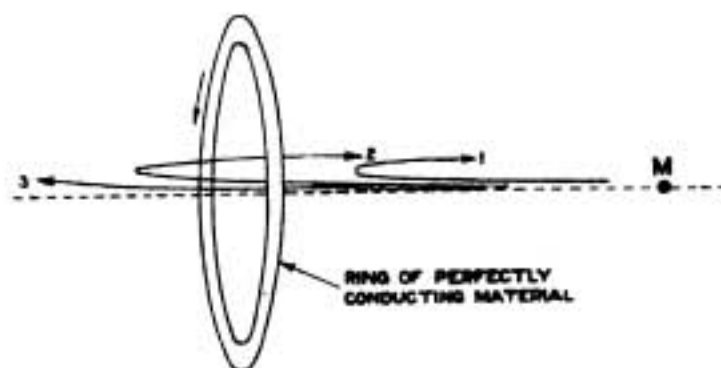

Fig. 6. Diagram illustrative of energy quantum being given to perfectly conducting ring by a moving magnetic pole.
it is. I was going to trouble you with the equation, but I won't do that, I will just illustrate how an electron striking an atom might refrain from giving it any energy at all unless it gave it a whole quantum and that it will not give it more than a quantum, but will retain the rest. I am going to take a ring of perfectly conducting material, (Fig. 6). The little difficulty—if it can be called a difficulty—of following this experiment is because we are not accustomed to dealing with perfectly conducting materials, but some of you may know that Kammerlingh Onnes in Leyden cooled a lead ring down to nearly absolute zero by means of liquid helium—he cooled it down to within two or three degrees of zero—and the lead became perfectly conducting, so that if you excited a current in that ring, such as you might do by snatching a magnet out of it, that current would continue ordinarily for a fraction
be down. We are all doing the proper things on our own—a planet need not be a big thing—and so these electrons are just carrying on and in those experiments they were travelling round and round the ring. Now if you take a magnetic pole (the difficulty of this experiment is that you cannot get one magnetic pole without the other, that is a weak point, but you can imagine a magnetic pole) there is the ring with no current in it, and take the magnetic pole from any distance and bring it up to the ring. As it comes nearer to the ring it induces a current in the ring; that current induced by the approaching magnetic pole repels the pole. It is like propelling the pole as it were against an elastic coil. If you let it go it would drive it back again. If then you shoot at that ring a magnetic pole M (Fig. 6) from a long way off, it will follow a path shown by the arrow (1). It would put some energy into the ring as it approaches, but that energy will be transferred back to the pole as it recedes, and it will go back with the velocity with which it came, retaining its energy and leaving none in the ring. It put energy into the ring, but took it back as it receded. If it is fired at the ring with more energy, and it gets as far as (2), it will still go back. Just for a moment you may think it should be propelled the other way, but that is not so, since the repulsive force is in the same direction. In order to retain any of its original motion it must travel with sufficient speed to get right away out of the range of the ring altogether (3), if it does that it will not wipe out the current generated. If it does that it will have some energy left to go on, and it will have left a quantum of energy in that ring. It will retain the rest. The energy delivered to the ring is